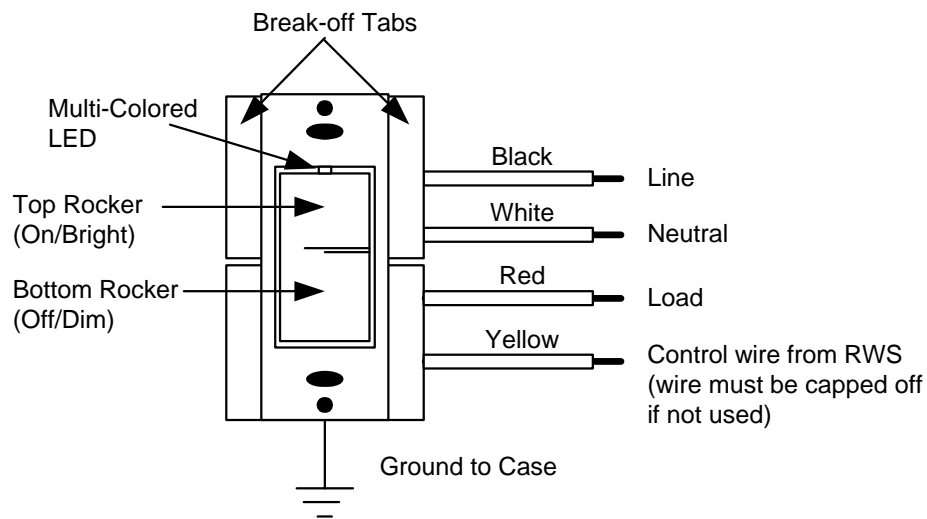

Figure 1: WS1D Wall Switch Dimmer
The WS1D Wall Switch Dimmer (Figure 1) is a high quality light-switch/ dimmer that not only allows for local rocker switch control of a lighting load but also incorporates PCS's innovative UPB™ two-way powerline communication technology that gives it the ability to be remotely controlled by other UPB™ compatible controllers. The WS1D is highly configurable to allow for behaviors customized to each individual's desires. The WS1D is capable of storing up to 16 preset light levels and fade rates to create powerful lighting scenes. The WS1D is also capable of transmitting UPB™ messages (including a current light level report) when rocker switch events occur. The WS1D is capable of being set to a non-dimming mode in order to control such loads as fluorescent lights.
1. Refer to Figures 1 and 2 to determine the wire colors of the hook-up.
For a proper fit in a multiple gang installation, it may be necessary to remove one or both sides (break-off tabs) from the mounting plate (see Figure 1). When tabs are removed, the overall rating of the device must be reduced in accordance with the following chart: